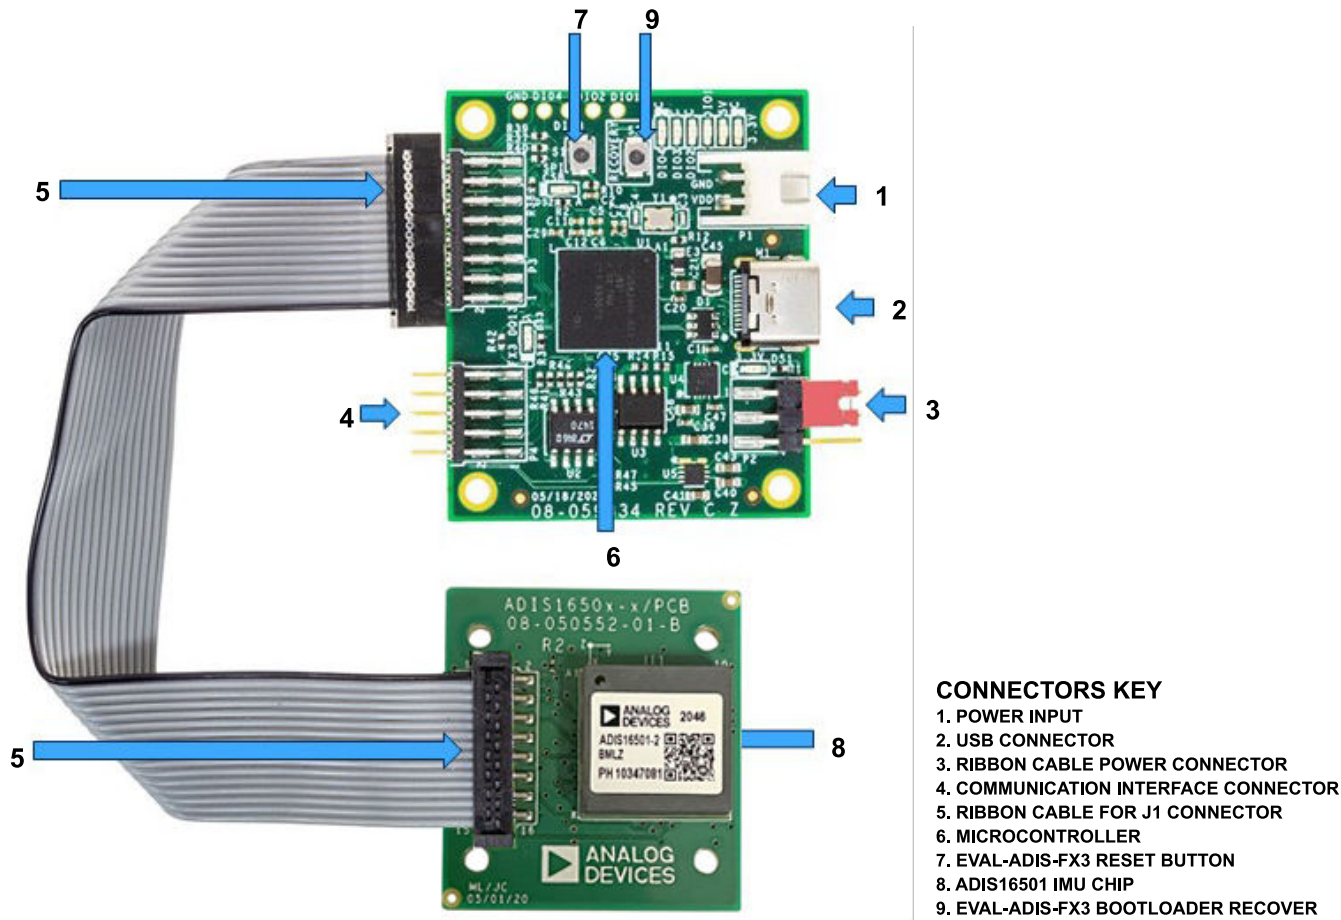

Figure 5. ADIS16501-2/PCBZ and EVAL-ADIS-FX3 Connections
See Figure 5 and Table 2 for the general identification based on standard electronic components and board design.
- ▶ Data acquisition and transfer. The ADIS16501-2/PCBZ breakout board utilizes the microcontroller or processing unit (see Number 6 in Figure 5) to manage the flow of data from the ADIS16501 IMU chip (see Number 8 in Figure 5). The microcontroller processes the raw sensor data in real-time, filtering and converting the data into usable formats.
- ▶ Communication interfaces. Data from the ADIS16501 IMU can be sent to other systems or devices using different connectors. For direct data transfer to computers, use the USB connector (see Number 2 in Figure 5) with the ADIS16501-2/PCBZ and EVAL-ADIS-FX3 connections.